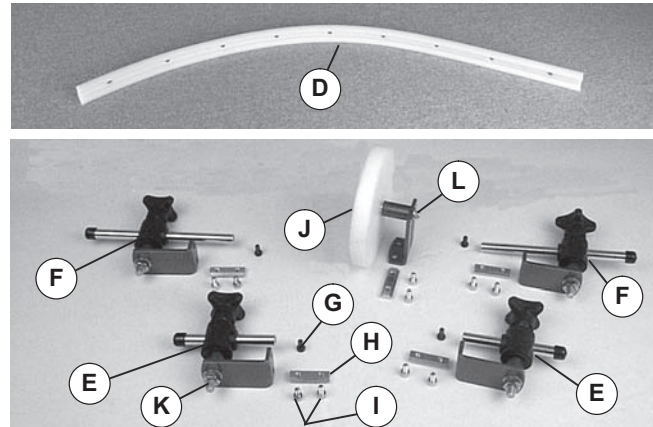
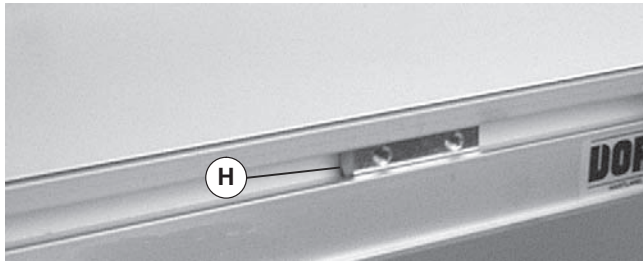
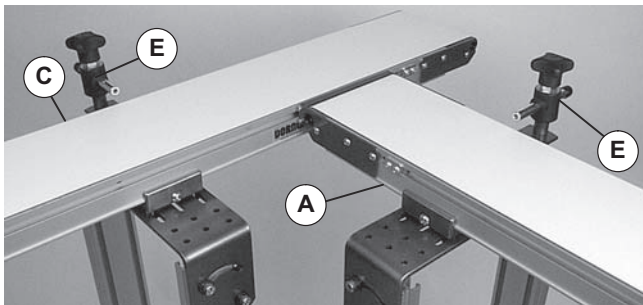

Figure 1
Figure 3
Figure 4
1. Parts as shipped (Figure 1)
3. Install T-bars (Figure 3, item H) in both infeed conveyor (A) and outfeed conveyor (C) T-slots. See Figure 4 for attaching guide mounts.
4. Loosely attach guide mounts with 4-1/2" (114 mm) long shafts (Figure 4, item E) to T-bars (Figure 1, item H) with screws (I).
- Tighten screws (Figure 1, item I) to 73 in-lb (8 Nm)
- Tighten guide mount nuts (Figure 1, item K) to 146 in-lb (16 Nm)
Transfer Plate (Figure 1, item B) and guiding (M & N) MUST be installed on discharge end of Infeed Conveyor to eliminate pinch points.